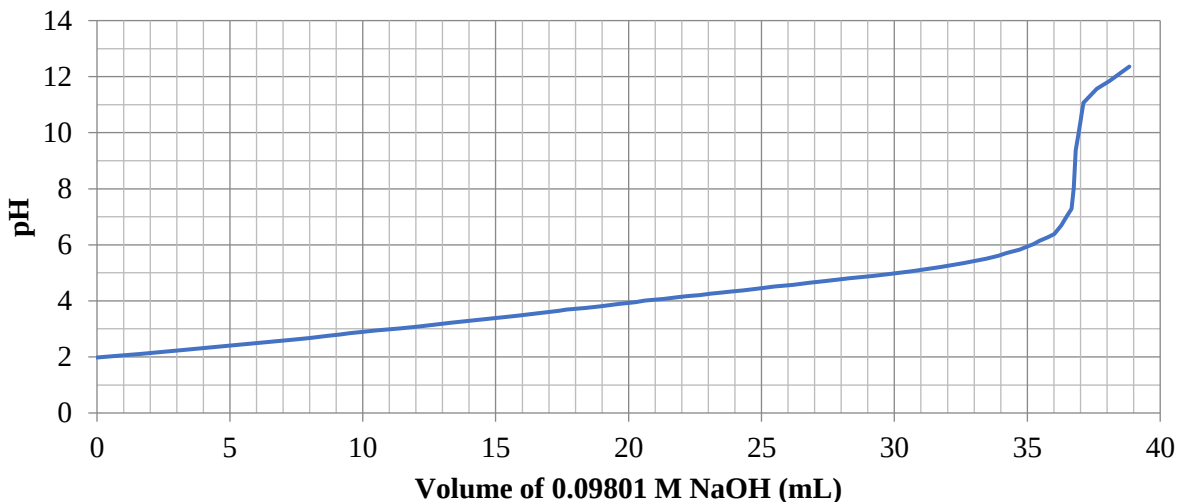
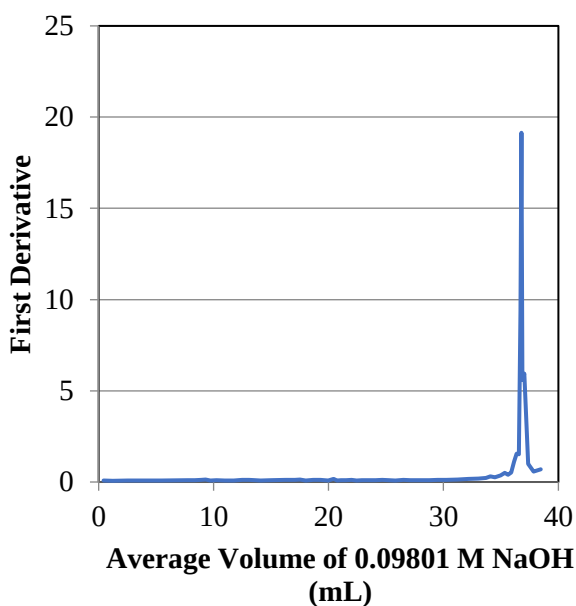
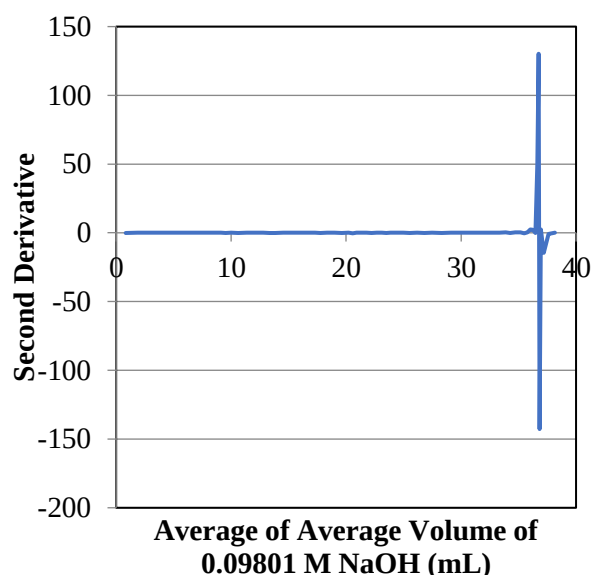
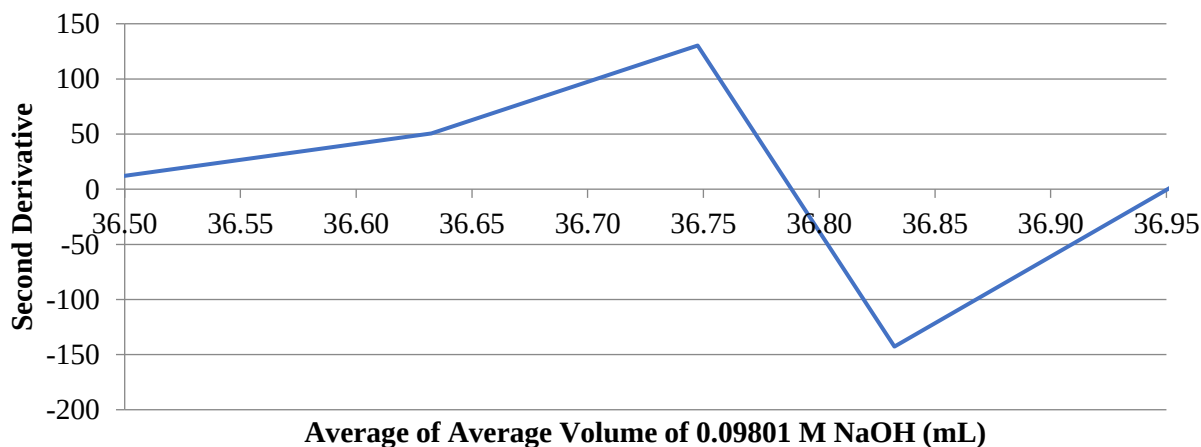

Figure 1. Titration curve of Jamie's unknown diprotic acid with 0.09801 M NaOH.
Figure 2. First derivative of the titration curve of an unknown diprotic acid with 0.09801 M NaOH.
Figure 3. Second derivative of the titration curve of an unknown diprotic acid with 0.09801 M NaOH.
Figure 4. Zoom in of the second derivative of the titration curve of an unknown diprotic acid with 0.09801 M NaOH.
Jamie conducted a titration of 0.1940 g of an unknown diprotic acid dissolved in distilled water with 0.09801 M NaOH. Then Jamie plotted the pH of the titration as a function of the volume of 0.09801 M NaOH added (Figure 1).
1. Describe the general features of the titration curve. Circle any buffer region(s) and roughly identify the endpoint volume from Figure 1.
The rough endpoint that you identified in question 1 represents the second endpoint of the unknown diprotic acid because all of the unknown acids have two pK_a values in the acidic pH region. While Figure 1 can be used to roughly identify the second endpoint of the titration, first and second derivatives of the titration curve can be calculated and plotted to more accurately identify the endpoint of the titration curve. Jamie prepared some additional figures to determine the second endpoint. They plotted the first derivative as a function of average volume of titrant added (Figure 2), the second derivative as a function of average of average volume of titrant added (Figure 3), and a zoom in on the x-axis of Figure 3 to see where the second derivative shows a local maximum or minimum, indicating the point of steepest slope (i.e., the inflection point) on the original titration curve (Figure 4). Instructions for how to make these graphs are included at the end of this worksheet.
To identify the second endpoint of the titration curve, look at Figure 4. Find where the biggest jump in second derivative crosses at $y=0$. Record this as your endpoint to the nearest tenth of a milliliter. For example, on Figure 4 the second equivalence volume is 36.79 mL. The first endpoint would be half the volume of the second endpoint (e.g. 18.40 mL).
a. pK_{a1} is equal to the pH at $\frac{1}{2}V_{e1}$. First, calculate the volume at $\frac{1}{2}V_{e1}$. Then, look at Figure 1 at that volume and estimate the pH at that volume, which is pK_{a1} .
- b. pK_{a2} is equal to the pH at $\frac{3}{2}V_{e1}$. First, calculate the volume at $\frac{3}{2}V_{e1}$. Then, look at Figure 1 at that volume and estimate the pH at that volume, which is pK_{a2} .
2. Figure 2. Plot first derivative as a function of average volume of titrant added.
3. Figure 3. Plot second derivative as a function of average of average volume of titrant added.
4. Figure 4. Zoom in on the x-axis of Figure 3 to see where the volume changed the most in the second derivative. Your zoomed in figure will likely have the x-axis cover less than 1 mL in volume. For example, in Figure 4, the x axis is zoomed in on 36.50-36.95 mL.